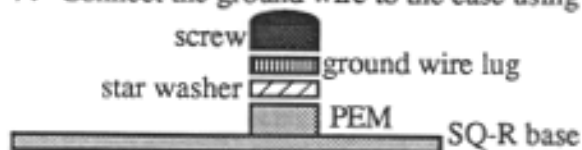

Figure 22 –
4. Remove the six (6) screws that secure the Transformer Board to the base. Note that there is a star washer on the grounding pad (next to the line cord connector on the PC board).
5. Install the replacement Transformer Board using the six (6) screws. Be sure to put the star washer on the screw that goes on the grounding pad.
7. Connect the ground wire to the case using a screw and star washer (see Figure 22).